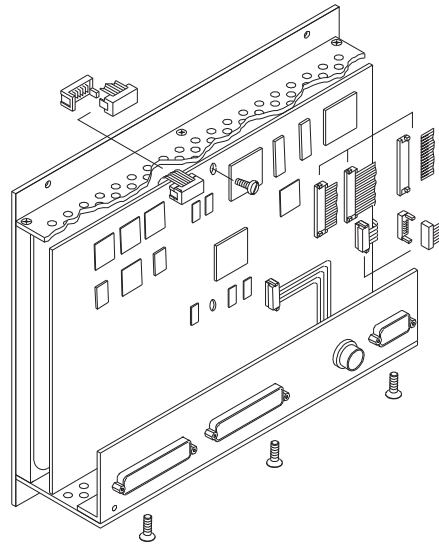

Fig. 8-14: Unscrew and removal of main pcb and connector panel
4. Take out the screws fixing the main pcb. Remove the screws at the bottom of the SurroundMonitor which hold the connector panel in place. Carefully remove connector panel and main pcb. (Fig. 8-14)